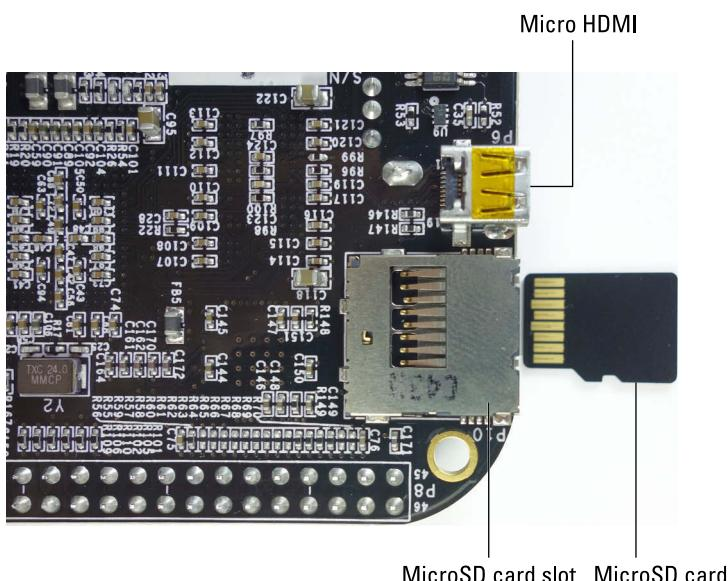

Figure 2-6:
When your microSD card is all set, you need to insert it into your BeagleBone. The card slot is on the back of your board, right next to the MicroHDMI port, as shown in Figure 2-6. Just press the card gently into the slot until you feel a click. Done! Your BeagleBone now happily boots with the freshly installed Debian distribution.
- 1. While your BeagleBone Black is powered off, insert your microSD card into the microSD slot (refer to Figure 2-6).**